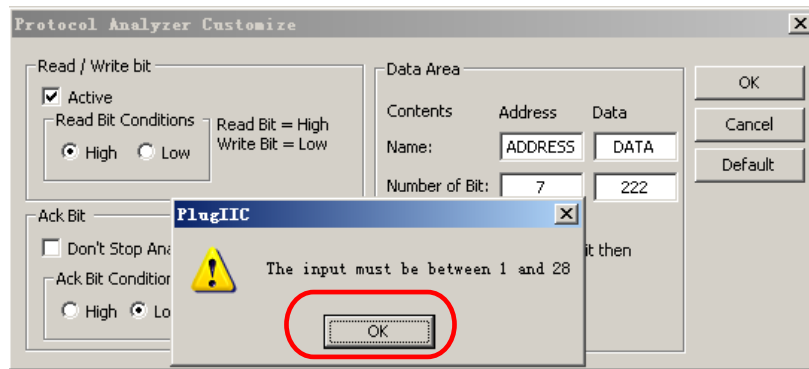

Fig 4-68 – Inputting Data Bits
Step7. Click **Custom Setting to define the IIC Data to meet users' requirements. The dialog box as shown in Fig 4-68 will be displayed.**